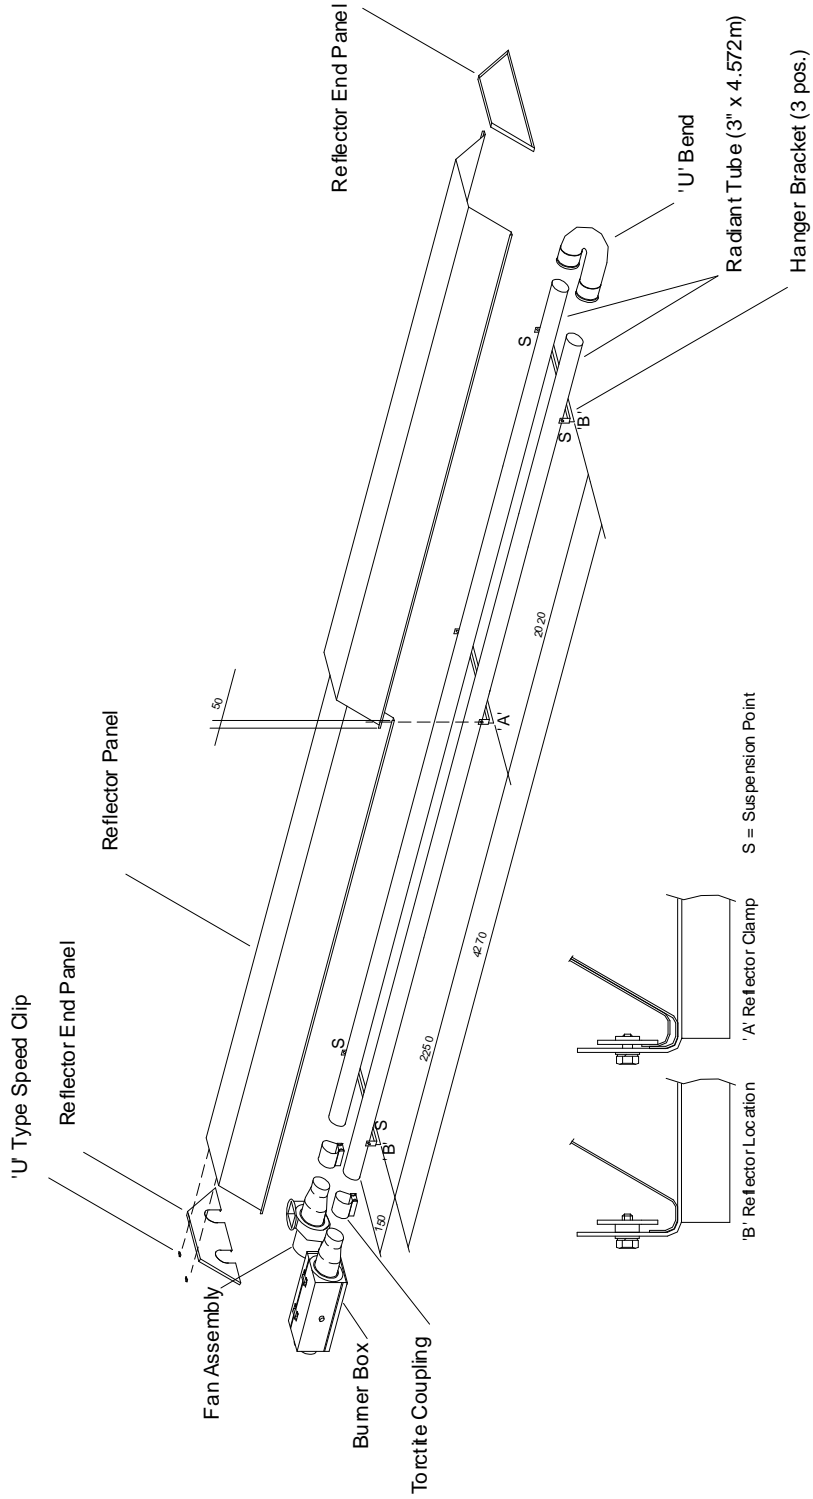

Fig. 15
- 4.2.2 Assemble the three Hanger Brackets to the Radiant Tubes using two 'U' bolts per bracket (from Fastenings Pack) and position along the Radiant Tubes as shown in Fig 15. Tighten the nuts sufficiently to retain the Hanger Brackets. Do not over tighten.
- 4.2.5 Place the two Reflector Panels onto the Hanger Brackets and position to provide a 50mm overlap at the centre arranged equally about the centre Hanger Bracket. Clamp the two Reflector Panels to the centre Hanger Bracket using two retainers and M6 setscrews and washers (fastening pack). Screw the remaining (4) retainers to the two outer Hanger Brackets to provide location for the Reflector Panel ends as shown in Fig. 15.
- 4.2.6 Position the Reflector End Panel (notched) over the Radiant Tubes and into the end of the Reflector Panel, with the End Panel flange flush with the end of the Reflector. Secure the Reflector End Panel to the Reflector Panel by use of 6 - U type speed clips provided (fastenings pack); 2 clips per facet of Reflector Panel, as shown in Fig. 15.
- 4.2.7 The appliance should now be raised and suspended from previously fixed chains or drop rods as detailed in Section 3.1, at suspension points indicated in Fig. 15. Rope or webbing slings should be used when lifting from above. If using a forklift to position the appliance, ensure that the appliance is balanced on the forks prior to lifting.